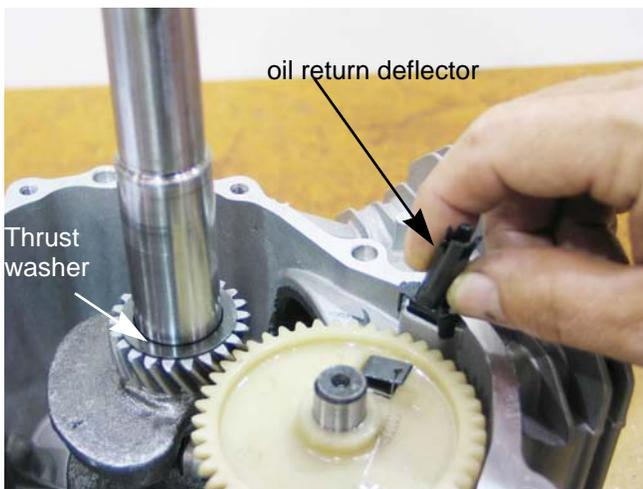

Figure 10.29
8. If removed, install the oil return deflector. See Figure 10.29.
9. Place the thrust washer on the crank shaft. See Figure 10.29.